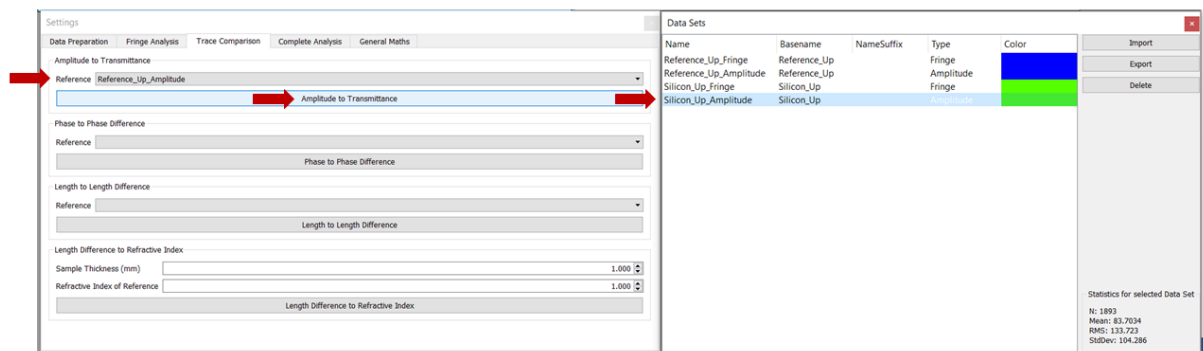

Fig. 8: Transmittance calculation.
5. In order to calculate the transmittance, select the Trace Comparison tab in the Settings + Analysis Window. Make sure that in section Amplitude to Transmittance, the proper reference spectrum is chosen. In the Data Selection Window, highlight the dataset that you wish to analyze (Fig. 8) and click the **Amplitude to Transmittance** button. You may want to plot the result.